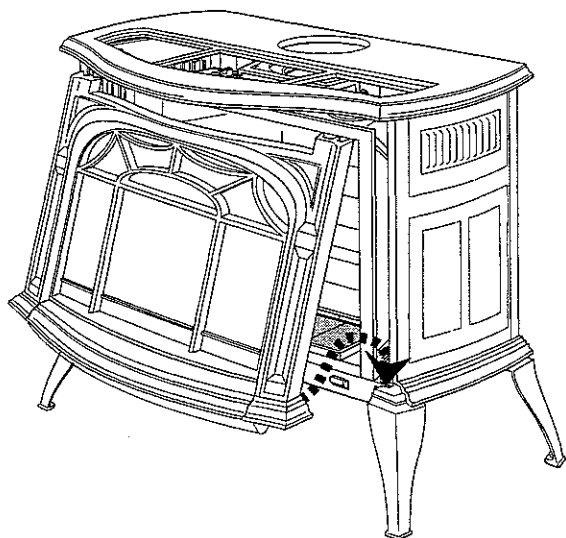

Fig. 25. Replace the front panel.
- Replace the stove front by grasping it by the left and right edges. Lift it so that tabs on the back side of the top corners engage notches at the top forward corners of the stove sides. Then gently swing the bottom of the front panel to a vertical position, and lower it till prongs on its bottom left and right corners engage with notches cast into the tops of the forward legs. See Fig. 25. Test that the front is installed securely by grasping two of panel's vertical bars, and pulling the panel toward yourself. When the panel is in place properly you should not be able to pull the bottom of the front toward yourself without also lifting it